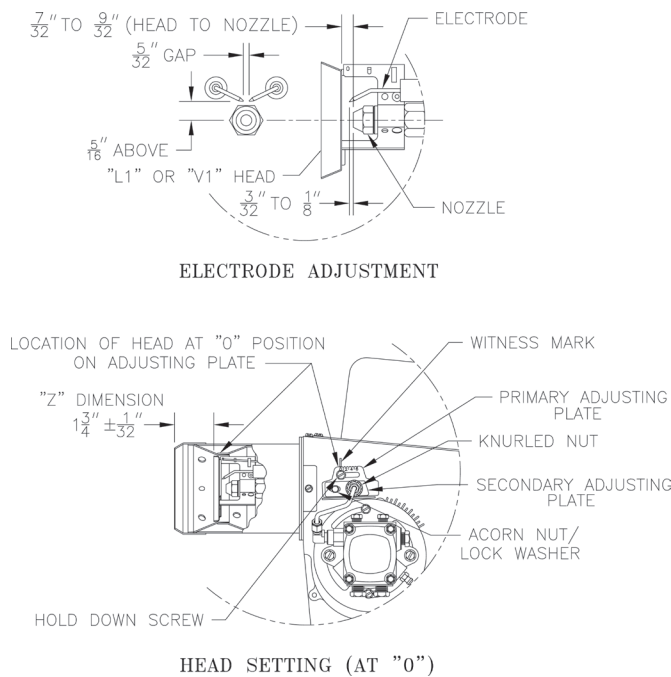

Figure 27: "L1" and "V1" Head Electrode Positioning and Gun Setting (Beckett AFG)
1. CL Series boilers are equipped with Beckett AFG burners. Items to be checked are nozzle size, head size, gun setting, and positioning of electrodes. This information is shown in Figure 27 and Table 10 at rear of manual.
2. Inspect Beckett head setting on left side of burner by insuring the blue line MD(V1) or the line on the label MB(L1) are aligned, readjust if necessary. Refer to Figure 27.